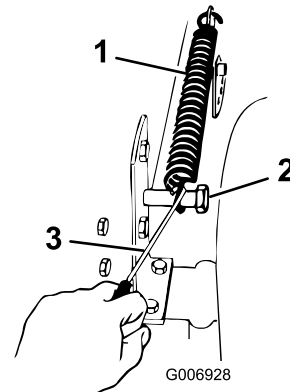

Figure 43
9. Remove the lift assist spring between the mower right side lift bracket and the retaining bolt (Figure 43).